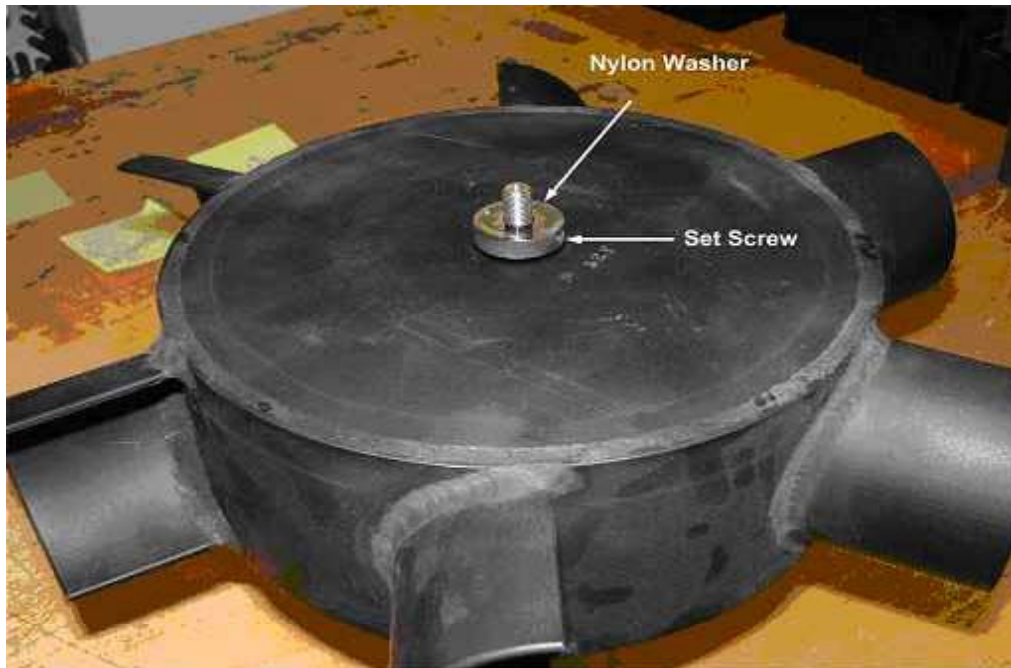

Figure 1-33. Washer with Set Screw
- b. Loosen set screw on washer and remove washer (See Figure 1-33).